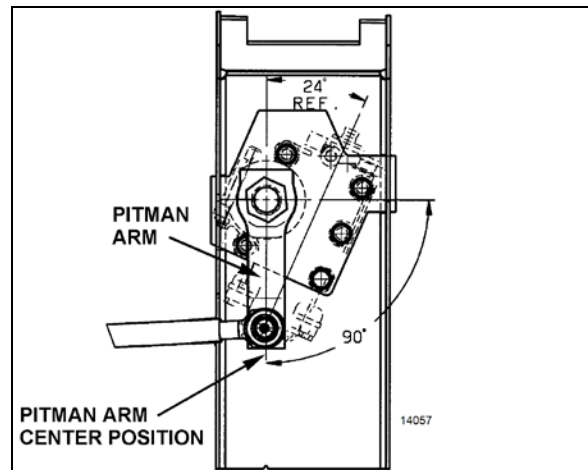

FIGURE 19: IFS PITMAN ARM ADJUSTMENT
- Using a protractor, check the angle of the pitman arm (refer to Figure 19 & Figure 19 for details).